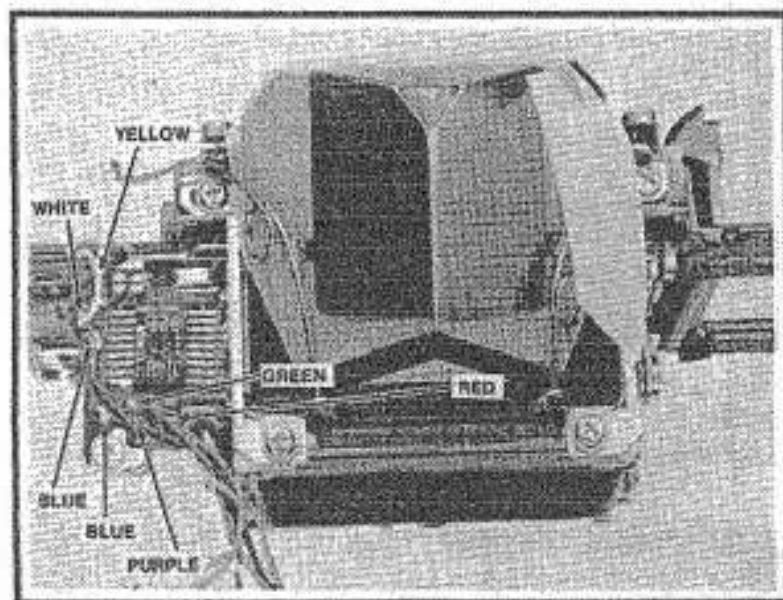
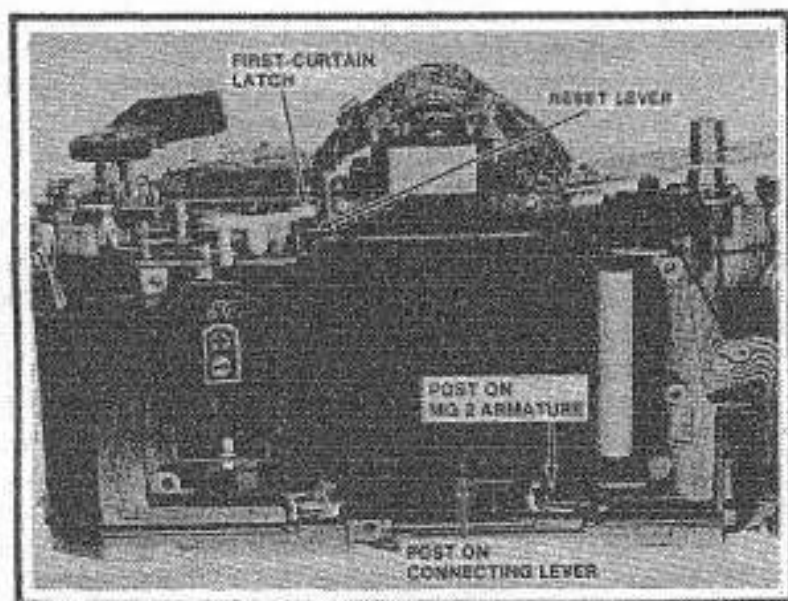
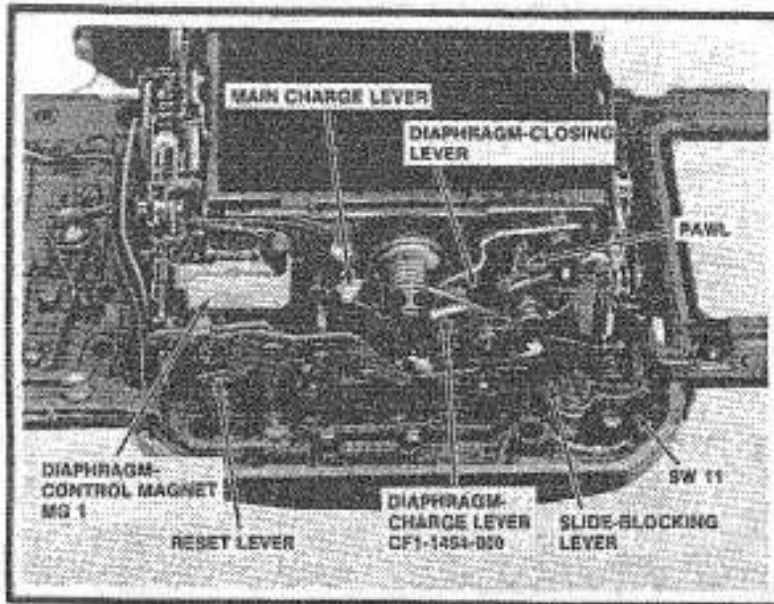
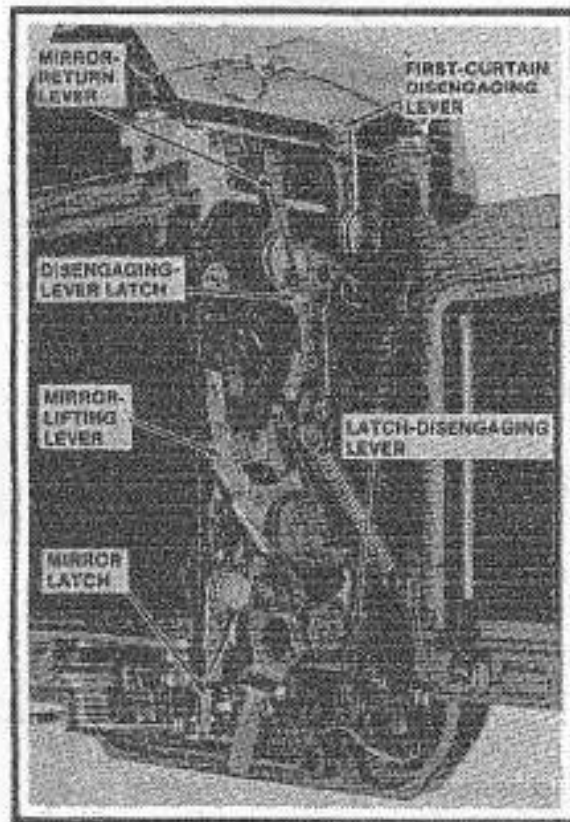

Figure 42
Figure 43
Figure 44
Figure 45
13. Open the battery compartment. Then, inserting your thumb into the battery compartment for a grip, lift out the front-plate/mirror-housing assembly, Fig. 42.
Note: It's possible to remove the front-plate/mirror-housing assembly without taking out the piezo beeper. However, it's difficult to seat the front-plate/mirror-housing assembly with the piezo beeper in place. Removing the beeper also prevents possible damage to the LED display board, Fig. 42.
1. Make sure the shutter is in the released position. To release the shutter, push the first-curtain latch, Fig. 43, toward the back of the camera.
5. As you seat the mirror assembly, pass the wires, Fig. 42, under the film-speed base plate, Fig. 43. The ends of the wires should be accessible at the back of the camera.
The mirror operation is nearly identical to that in other A-series Canons. Cock the mirror by pushing the main charge lever, Fig. 44, in a counterclockwise direction. The MG1 armature now moves against the core of the diaphragm-control magnet.
Release the mirror by pushing the U-shaped end of the reset lever, Fig. 44, toward the front of the mirror assembly. A spring now drives the diaphragm-charge lever, Fig. 44, counterclockwise. The end of the diaphragm-charge lever moves away from the end of the mirror-lifting lever and strikes the mirror latch, Fig. 45.
Disengaging the mirror latch allows the mirror-lifting spring, Fig. 45, to pull the mirror-lifting lever in a clockwise direction. An arm on the mirror-lifting lever comes against a post on the mirror bracket, driving the mirror to the raised position.
The diaphragm-charge lever also operates the diaphragm-closing lever, Fig. 44. A pawl on the diaphragm-charge lever engages the tab on the diaphragm-closing lever. As the diaphragm-closing lever rotates counterclockwise, the pawl carries the diaphragm-closing lever in the same direction. The end of the diaphragm-closing lever, passing through the lens mount, allows the lens diaphragm to stop down.
To return the mirror and reopen the diaphragm, push forward the mirror-return lever, Fig. 45. The mirror-lifting lever now moves counterclockwise—away from the post on
Pushing forward the mirror-return lever disengages the lifting-lever latch to free the mirror-lifting lever. The latch-disengaging lever that disengages the lifting-lever latch also disengages the pawl from the diaphragm-closing lever. Note that the lower end of the latch-disengaging lever, Fig. 45, comes against the pawl-disengaging lever. The pawl-disengaging lever pulls the pawl out of engagement with the tab on the diaphragm-closing lever, allowing the lens diaphragm to reopen.
In normal operation, the connecting-lever post, Fig. 43, charges the mirror. The post comes against the curved end of the main charge lever. A post on the MG2 armature, Fig. 43, strikes the U-shaped end of the reset lever to release the mirror.
The mirror then rises and releases the first curtain. An arm on the mirror-lifting-lever assembly strikes the disengaging-lever latch, Fig. 45. The first-curtain disengaging lever then moves toward the shutter and strikes the first-curtain latch, Fig. 43.
With the mirror housing removed, however, the first-curtain disengaging lever doesn't move. That's because the shutter must first charge the first-curtain disengaging lever. During the cocking stroke, the reset lever in the shutter, Fig. 43, pushes the first-curtain disengaging lever forward—until the first-curtain disengaging lever is latched by the disengaging-lever latch.
The S.AVE contact only controls the diaphragm closure when the lens is at the auto setting. At auto, the pin at the back of the lens pushes in the EM change pin in the lens mount. The EM change pin then opens SW11, the auto/manual switch, Fig. 44.
Also, the EM change pin moves the slide-blocking lever, Fig. 44, into the path of the stop-down slide. The slide-blocking lever prevents you from using the depth-of-field preview on auto. To use the depth-of-field preview, you must first set a manual f /stop.
As in other A-series Canons, the three panels—the mirror mechanism, the AE unit, and the auto-diaphragm unit—attach to the sides of the mirror housing. You can remove the mirror mechanism, Fig. 45, individually. But remove the AE unit and the auto-diaphragm unit together.
2. Seat the mirror mechanism. Make sure the mirror latch sits behind the arm of the diaphragm-charge lever, Fig. 45. Also position the latch-disengaging lever behind the end of the pawl-disengaging lever, Fig. 45. Replace the three mirror-mechanism screws.
1. Unsolder the blue wire from the LED circuit board, Fig. 42.